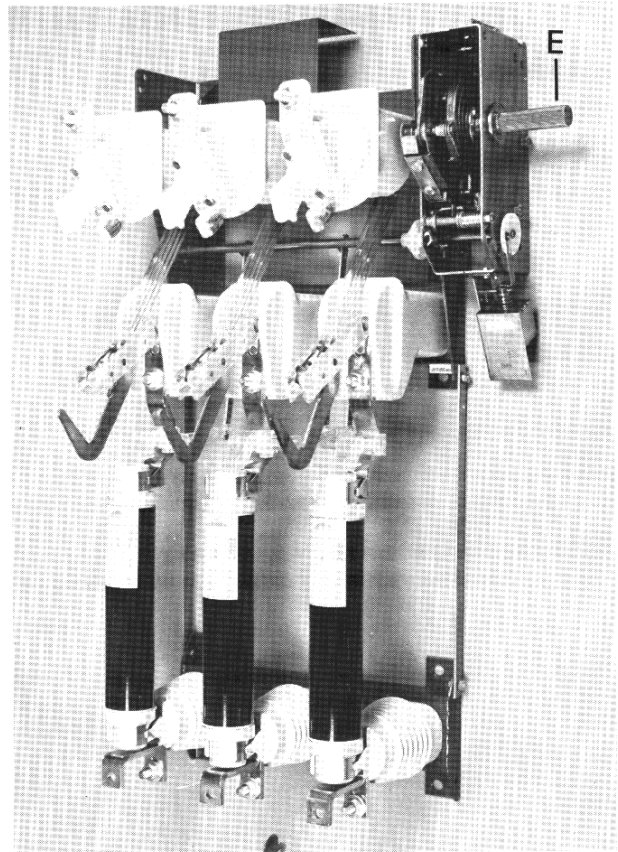
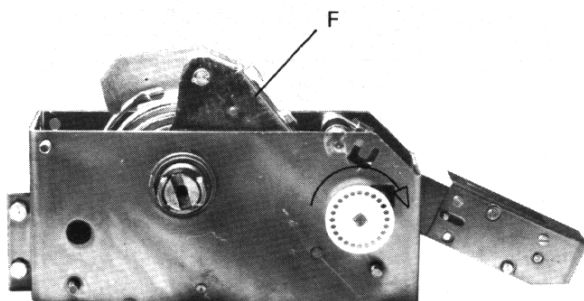

Fig. 4a
Fig. 6
When mounting a fuse base with three post insulators, one set of fuse contacts and possibly fuse trip accessories are mounted directly on the switch terminals. Fig. 4a or 4b.
- a) Turn the operating shaft E - fig. 4a clockwise, max 60°, and return the operating handle back to the neutral position (Opening spring housing F, Fig.6, must not be latched).
7.0 MOUNTING THE SHUNT RELEASE. Fig. 12. Turn the operating shaft E (Fig. 4a) a maximum of 60° clockwise. **Opening spring housing F, Fig. 6, must not be latched.** Return the shaft to its neutral position. Connect the bar B to the perforated disc A.